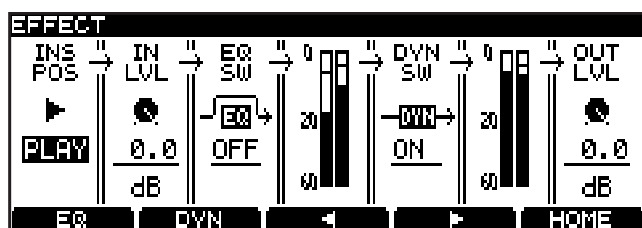

Figure 8.1: Effect setting screen
1 From the effect setting screen (see Figure 8.1, *Effect setting screen*), press the F1 (EQ) key.
- 1 From the effect setting screen (see Figure 8.1, *Effect setting screen*), press the F2 (DYN) key.